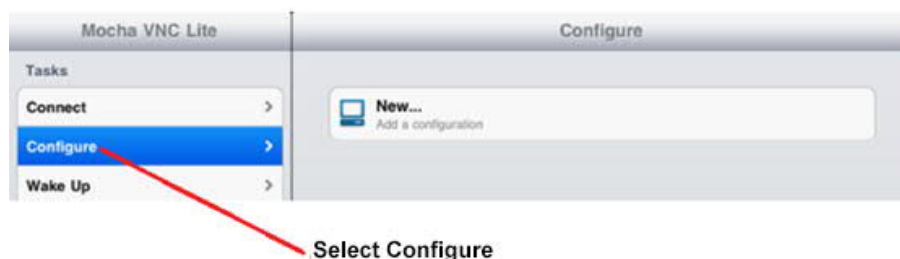

Figure 76: Mocha VNC Lite Configure (New) Screen
10. Open the application and select Configure. (Figure 76)